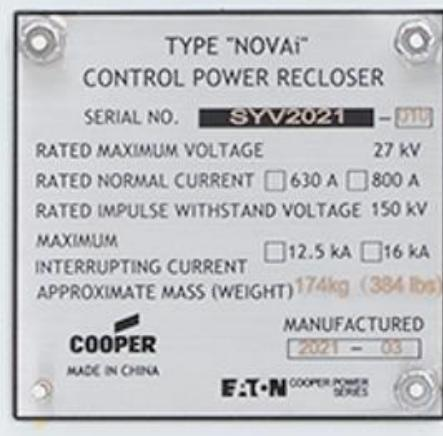

Figure 6.
3. **Install the recloser.** Mounting frames from Eaton's Cooper Power Systems should always be used. See Figure 6 for moving and lifting instructions.